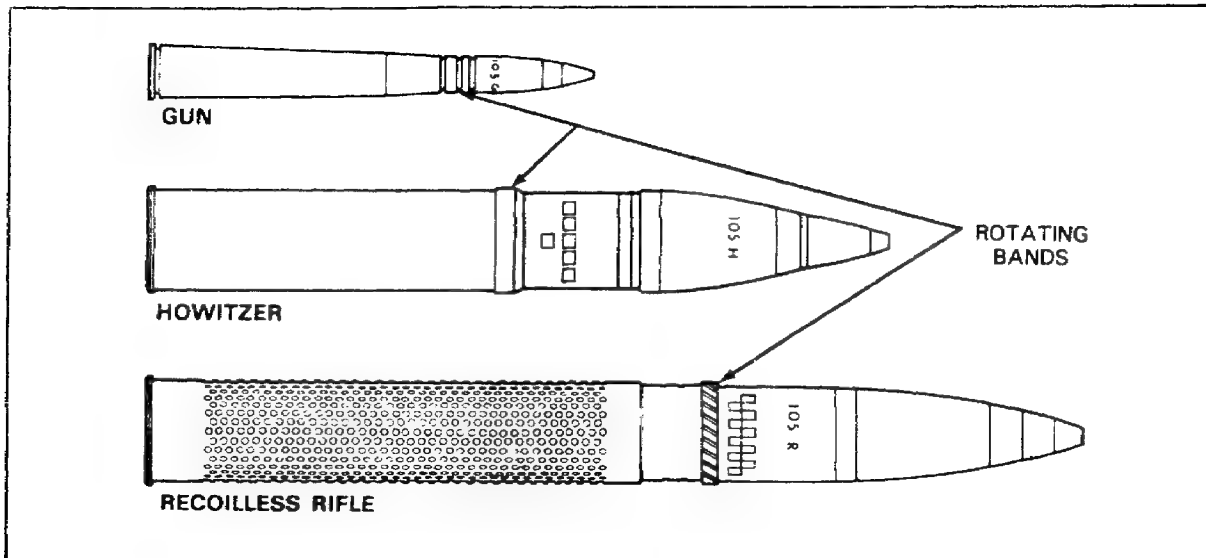

Figure 17. Comparison of Rotating Bands by Weapon Type.
**Rotating Bands.** Rotating bands are bands of soft metal that engage the rifling of the bore of the weapon upon firing. This causes the projectile to spin and stabilize in flight. Rotating bands also identify the type of ammunition according to the type of weapon used (see Figure 17).